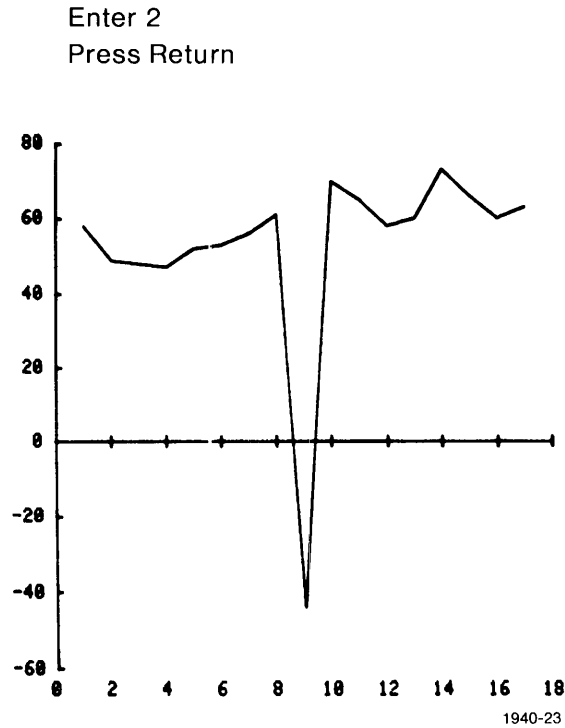

Figure 4-6. Y Only Data Plot with Negative Data.
The screen shows the data list. Notice that former data items 9 through 16 have been reassigned data item numbers 10 through 17, one sequential item number higher to allow -44° to be inserted as data item 9. Figure 4-6 shows the graph of this data.